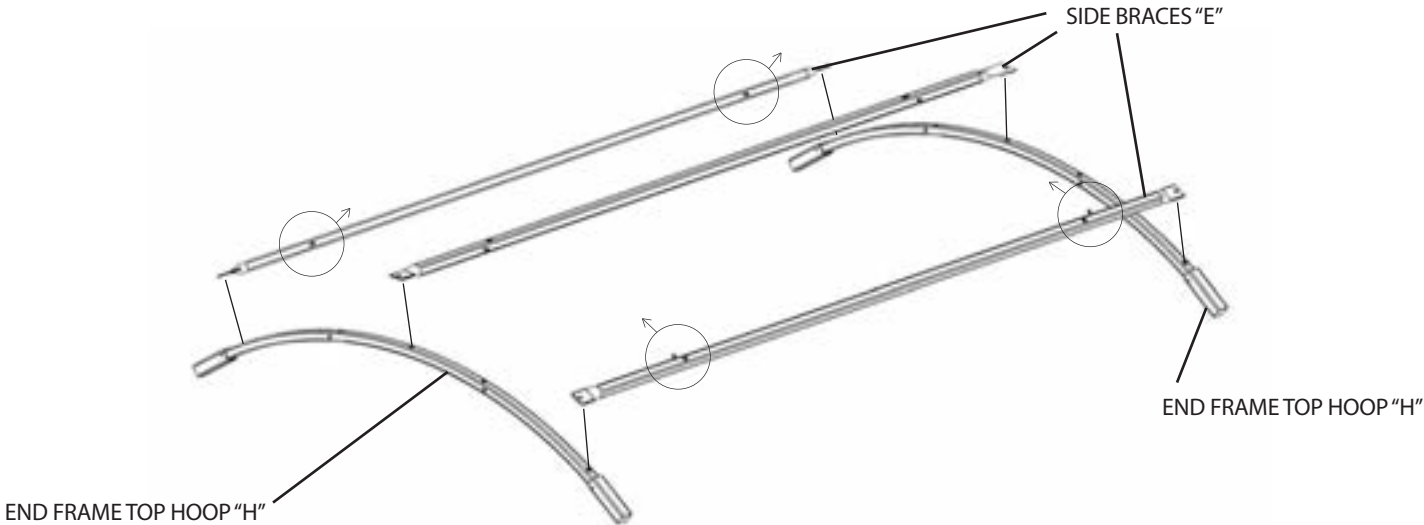

Figure 15.1
STEP 7: Locate the (5) parts that will be assembled to create the third section of the bale blind frame. These parts are the (2) END FRAME TOP HOOPS "H" and (3) SIDE BRACES "E". Using the hardware connection in (6) places, align and fasten the hole ends of the (3) SIDE BRACES "E" with the corresponding holes in the (2) END FRAME TOP HOOPS "H", and fasten with (6) Bolts and (6) Nuts, as illustrated in Figure 15.1.
NOTE: On the (2) END FRAME TOP HOOPS "H", make sure to use the middle hole and the two outer most holes during installation on this step, as illustrated in Figure 15.1. The (2) SIDE BRACES "E" to be installed on the outer most holes of the (2) END FRAME TOP HOOPS "H", will have their (4) Set Screws facing upwards, as illustrated in Figure 15.1. The remaining SIDE BRACE "E" to be installed in the middle corresponding hole can be installed with it's (2) Set Screws facing in either direction. Again, for the middle SIDE BRACE "E" it does not matter which way the (2) Set Screws are facing.